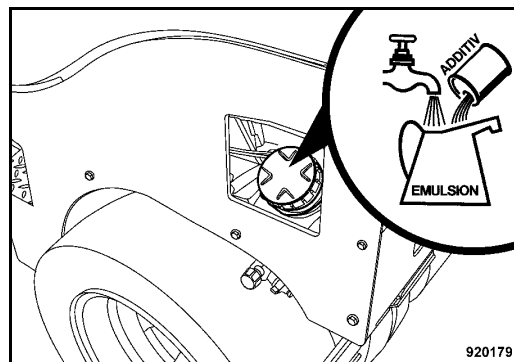

Fig. 183
- Fill the emulsion tank (Fig. 183).